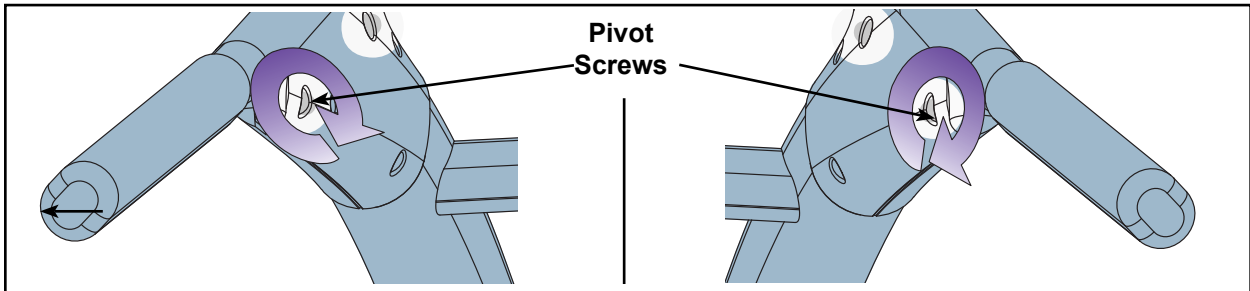

Figure 8
- B. Using the Allen wrench provided, tighten the two pivot screws on the handrail. See Figure 8.